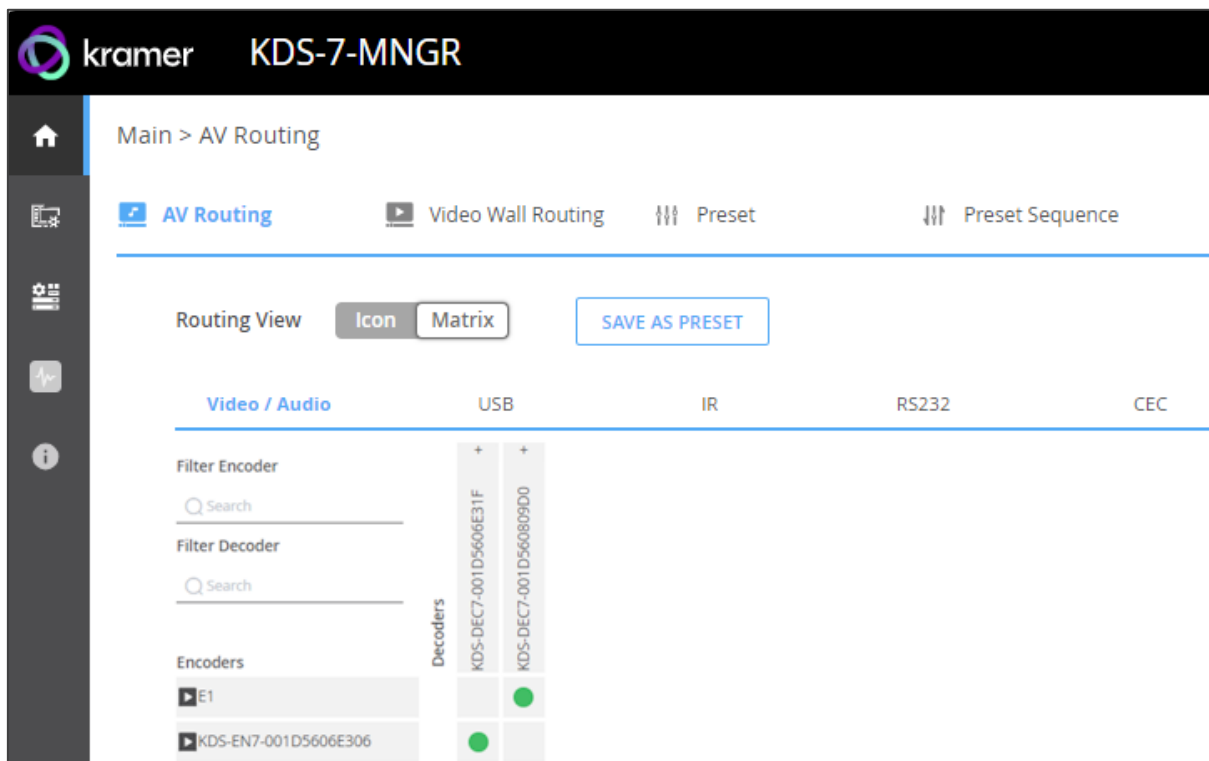

Figure 9: Controller Application Page with Navigation List on Left
1. In the Navigation pane, Select **Main > AV Routing**. The AV Routing page appears (see Figure 9).
2. In **Routing View** click **Matrix** (default) to view the system as a matrix (see Figure 9) and **Icon** to see each encoder/decoder as an icon.